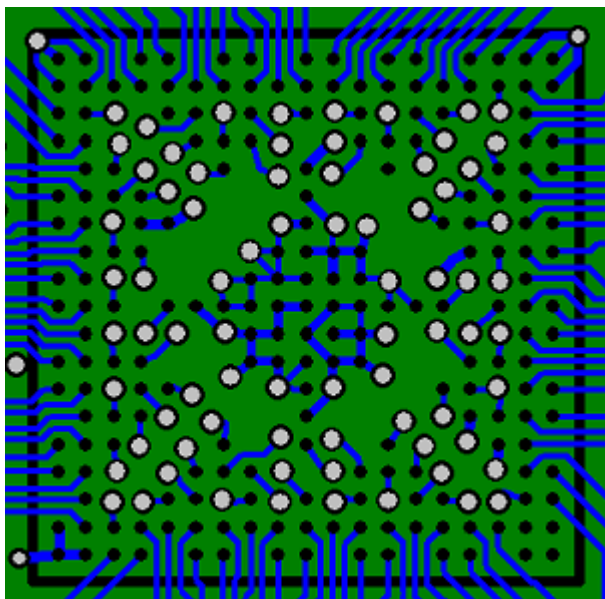
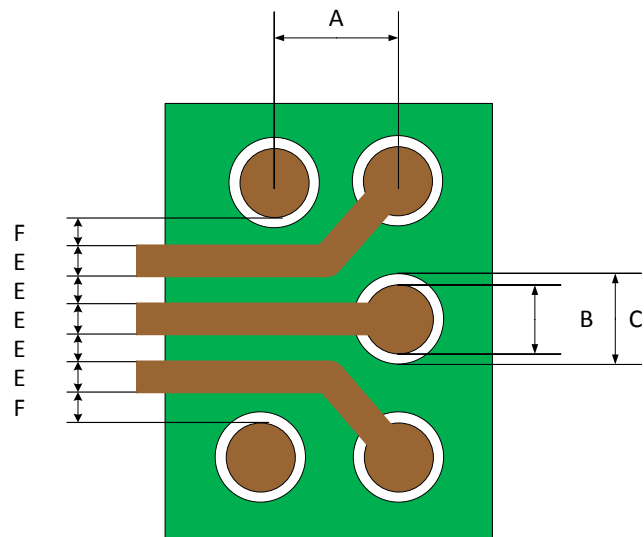

Figure 9. Top Layer 212-Ball BGA Escape Routing
Figure 10. BGA Escape Routing Through Depopulated Ball Location
Figure 9 shows the recommended top layer routing pattern used to escape the BGA. The black dots are the 0.25 mm (9.84 mil) BGA landing pads (Also shown as B in Figure 10). The black circles with white centers are 0.457 mm (18 mil) vias.
Some things to note about Figure 9:
- Routing from the second row of balls between balls with a 0.5 mm (19.69 mil) spacing and 0.1 mm (4.0 mil) trace/space is not possible. Traces from the second row of balls must be routed through the opening left by the depopulated ball in the first row as shown in Figure 10 where E is 0.1 mm (4 mil) and F is 0.12 mm (4.76 mil).